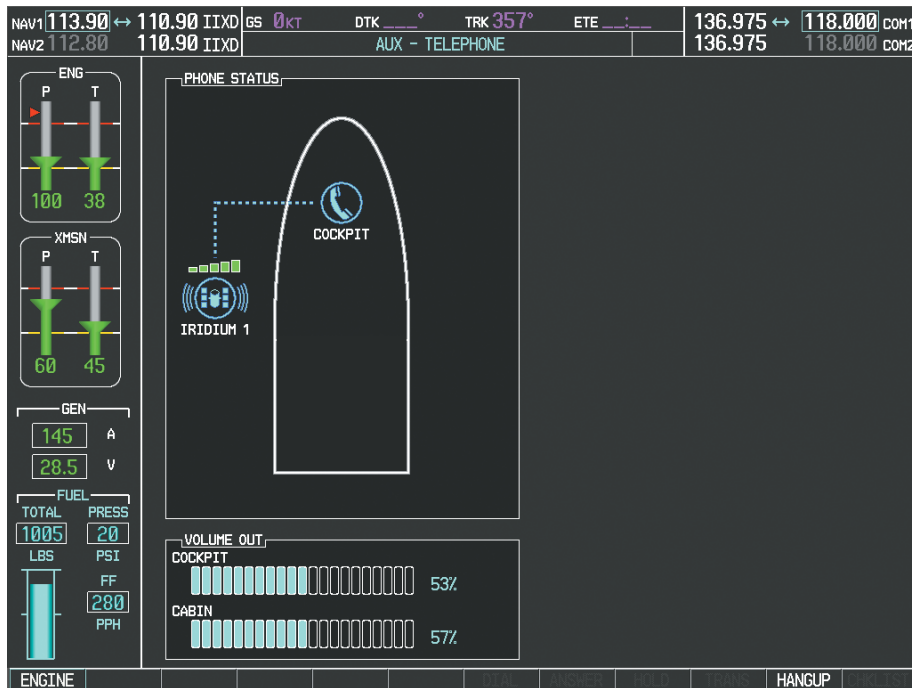

Figure 8-83 System is Making the Connection
- 5) Press the **ENT** Key. The system will begin calling the number, as in Figure 8-83.